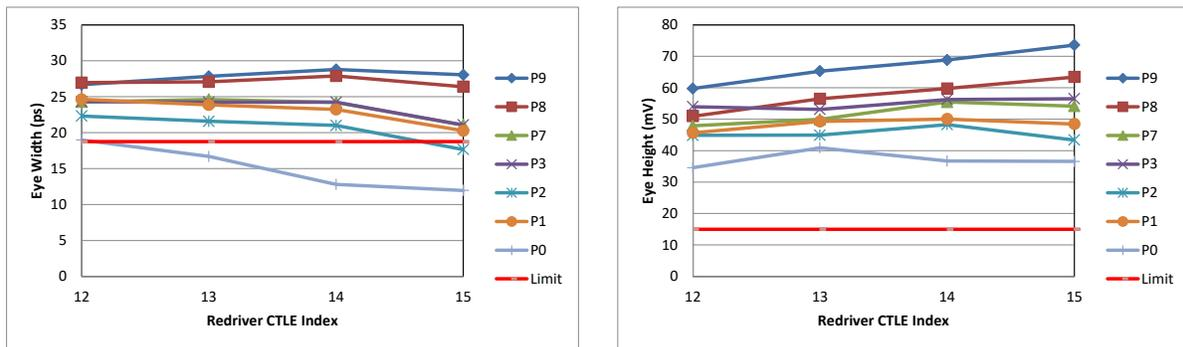
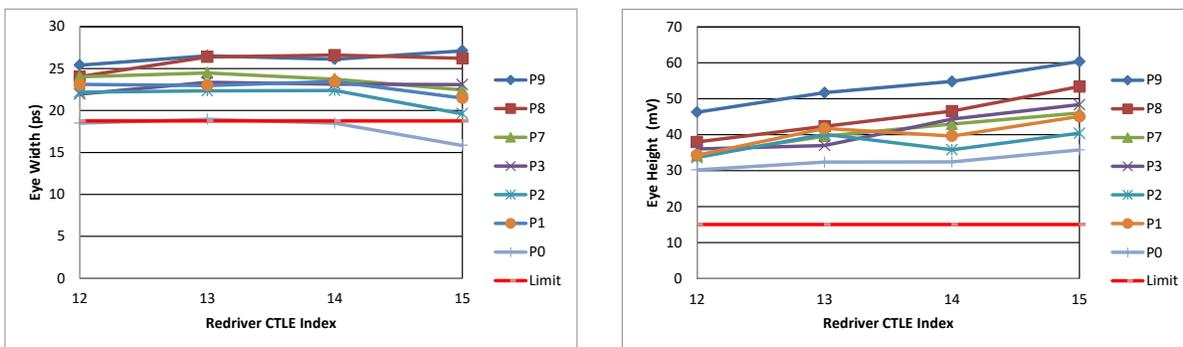

Figure 4-1. Eye Width and Eye Height as a Function of PCIe TX Preset and Redriver CTLE Setting for a 18-dB Pre-Channel and a 18-dB Post-Channel
Figure 4-2. Eye Width and Eye Height as a Function of PCIe TX Preset and Redriver CTLE Setting for a 24-dB Pre-Channel and a 18-dB Post-Channel
Tuning a CTLE typically means adjusting its gain curve to match the inverse of a given channel loss curve. However, for PCIe redrivers such as the DS160PR410, CTLE tuning means selecting a CTLE setting that works with most PCIe TX presets to ensure robust PCIe link training with sufficient timing and noise margins. As shown in Figure 4-1 and Figure 4-2, there are multiple redriver CTLE settings and PCIe TX pre-sets that help produce an acceptable eye opening after it had also been conditioned with PCIe compliant receiver equalization techniques. These figures show the measured eye height (EH) and eye width (EW) of a PCIe compliance pattern captured with the oscilloscope and then post-processed by the PCI-SIG's SigTest v4.0.48 software that is modeling the PCIe receiver's adaptive CTLE and DFE functions as defined in the PCIe 4.0 Base specification.
Each Figure 4-1 entry shows the measured eye height (EH) and eye width (EW) of a PCIe compliance pattern captured with the oscilloscope and then post-processed by the PCI-SIG's SigTest v4.0.48 software that is modeling the PCIe receiver's adaptive CTLE and DFE functions as defined in the PCIe 4.0 Base specification. It also shows the selected optimal PCIe TX preset (as defined in Table 2-2), the DS160PR410 redriver CTLE setting or EQ Index (as defined in Table 2-1), and PCIe RX equalization (CTLE and DFE) settings for given pre-channel and post-channel losses.
- When the pre-channel losses for both the upstream and downstream redrivers are at least -14 dB, the total channel loss (pre-channel + post channel) can be -40 dB or more (Figure 4-1). In other words, extending a PCIe link to -40 dB or more requires placing the DS160PR410 redrivers at least -14 dB from the PCIe transmitter.